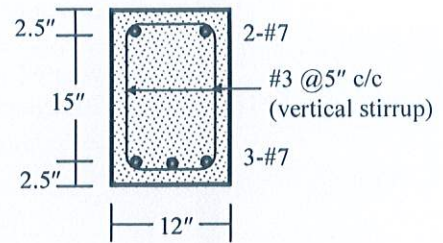
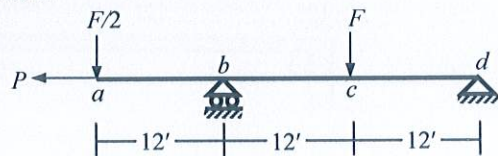

Fig. 1
Fig. 2
1. A cable is suspended from the points A and B which are 80m apart horizontally and are at different levels. The right point B is 5m below A and the lowest point of the cable is 10m below A. The cable is carrying a UDL of W kN/m along the horizontal span. Calculate the horizontal and vertical reactions at the ends and the maximum & minimum tension in the cable. Also calculate the maximum sag of the cable. ($W = \text{Last Digit of Roll} + 10$) (10)
2. Draw the influence line, find the wheel position & then calculate the maximum shear force at a section 4m from the left support A of a simply supported beam of 15 m for the wheel load arrangement shown in Fig. 1 ($Q = \text{Last Digit of Roll} + 10$) (10)
3. draw the Influence line, find the wheel position & then Calculate the maximum bending moment at 4m from the left support of a simply supported beam of 15m for the wheel load arrangement shown in Fig. 1 ($Q = \text{Last Digit of Roll} + 10$) (10)
4. For the frame in Fig. 2 draw the Influence line for the reactions and bending moment at the section k and G. (12)
1. For the RC section shown in Fig. 1, calculate the
2. For the RC section shown in Fig. 1, calculate the
3. Fig. 1 shows section *c* obtained by USD of the beam *abcd* loaded as shown in Fig. 2. Use BMD of the beam to
4. Fig. 1 shows section *c* obtained by WSD of the beam *abcd* loaded as shown in Fig. 2. Use SFD of the beam to
- (i) Calculate the corresponding live load *F* (neglecting beam self-weight) for the stirrup spacing shown in Fig. 2.
5. Fig. 1 shows section *c* obtained by USD of beam *abcd* (shown in Fig. 2). Calculate (by USD) the
- (ii) Axial Force P required to make $V_c = 0$, and corresponding live load F (neglecting beam self-weight) for the stirrup spacing shown in Fig. 2.